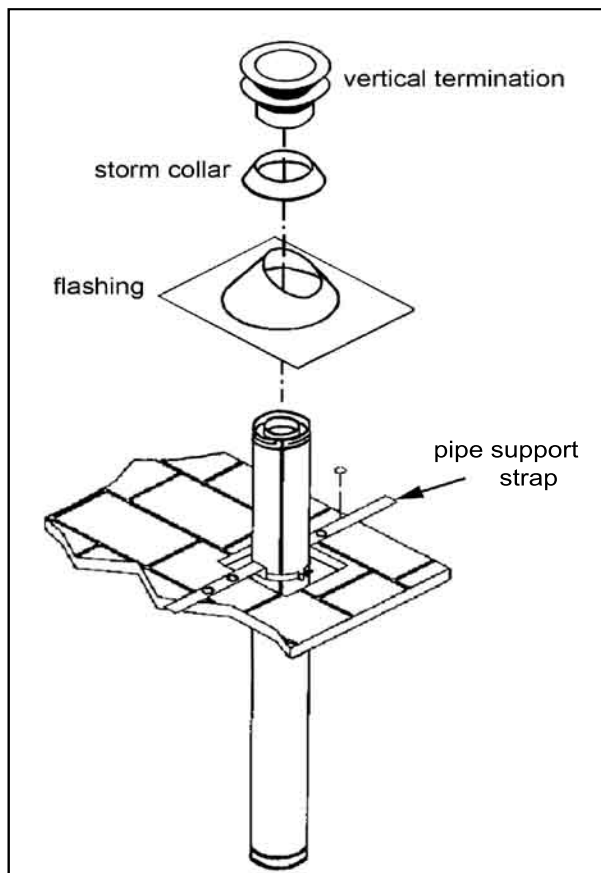

Figure 21. Vertical Vent Termination
- Step 6.** Once the pipe sections have been joined and run up through the roof, slip a pipe support strap over the exposed sections. Bend the support straps outwards and push the pipe support strap down to the roof level. Use a level to make sure the pipe is vertical and tighten the clamp around the pipe section. With roofing nails, secure the support straps to the roof and seal the nail heads with non-hardening mastic. Trim the excess length of the straps. If the installation is taking place in a finished house the pipe support straps can be attached to the rafters in the attic. See figures 21 and 22.